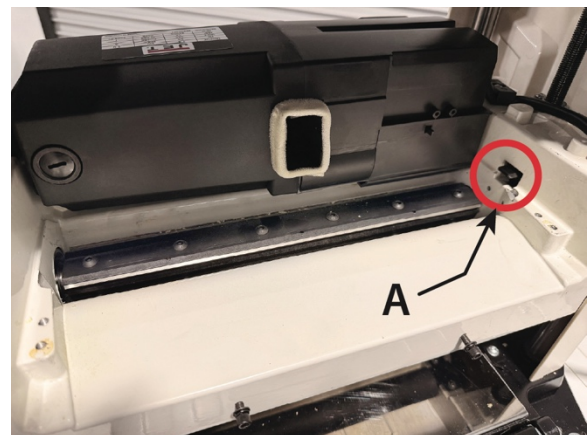

Figure 8-7
1. Using the drive belt, rotate the cutterhead while pressing the cutterhead locking lever (A, Figure 8-7). When the cutterhead rotates to the locking position, the locking lever will move into the locking position. Release pressure on the cutterhead locking lever.